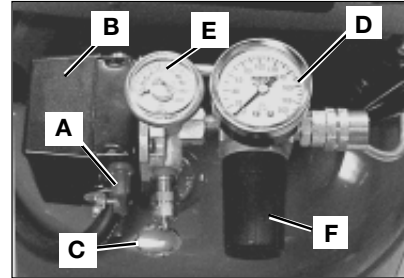

Fig. 1
ON/AUTO - OFF Switch (A) Fig. 1: Turn this switch ON to provide automatic power to the pressure switch and OFF to remove power at the end of each use.
Pressure Switch (B) Fig. 1: The pressure switch automatically starts the motor when the air tank pressure drops below the factory set "cut-in" pressure. It stops the motor when the air tank pressure reaches the factory set "cut-out" pressure.
Safety Valve (C) Fig. 1: If the pressure switch does not shut off the air compressor at its cut-out pressure setting, the safety valve will protect against high pressure by "popping out" at its factory set pressure (slightly higher than the pressure switch cut-out setting).
Outlet Pressure Gauge (D) Fig. 1: The outlet pressure gauge indicates the air pressure available at the outlet side of the regulator. This pressure is controlled by the regulator and is always less than or equal to the tank pressure.
Tank Pressure Gauge (E) Fig. 1: The tank pressure gauge indicates the reserve air pressure in the tank.
Regulator (F) Fig. 1: Controls the air pressure shown on the outlet pressure gauge. Pull the knob out and turn clockwise to increase pressure and counterclockwise to decrease pressure. When the desired pressure is reached push knob in to lock in place.